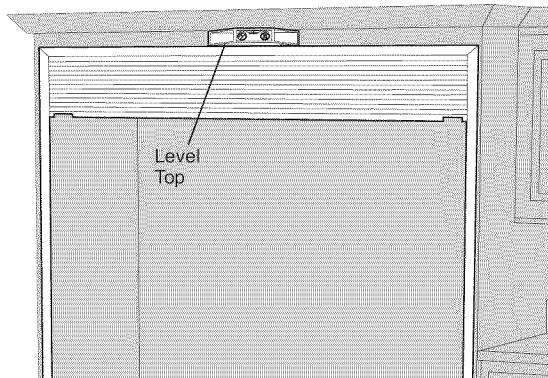

Figure 7
- Making sure the frame is flush up against the front surface of cabinetry, carefully run one mounting screw (M) through the center hole of the top trim (A) and into the cabinetry. **DO NOT TIGHTEN AT THIS TIME**.
- Level the top of the trim frame using a carpenter's level. See Figure 7.